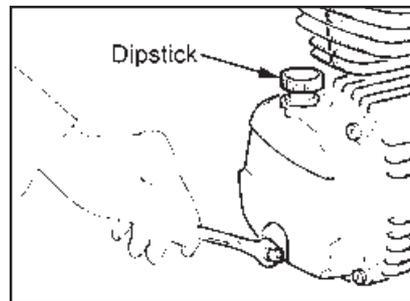

Fig. 6
1. Remove the plastic travel plug from the oil filler hole, on the top of the crank case, and insert the dipstick (see Fig. 6 - p.9).
To empty the oil from the machine, remove the drain plug from the crankcase cover (see fig. 6).